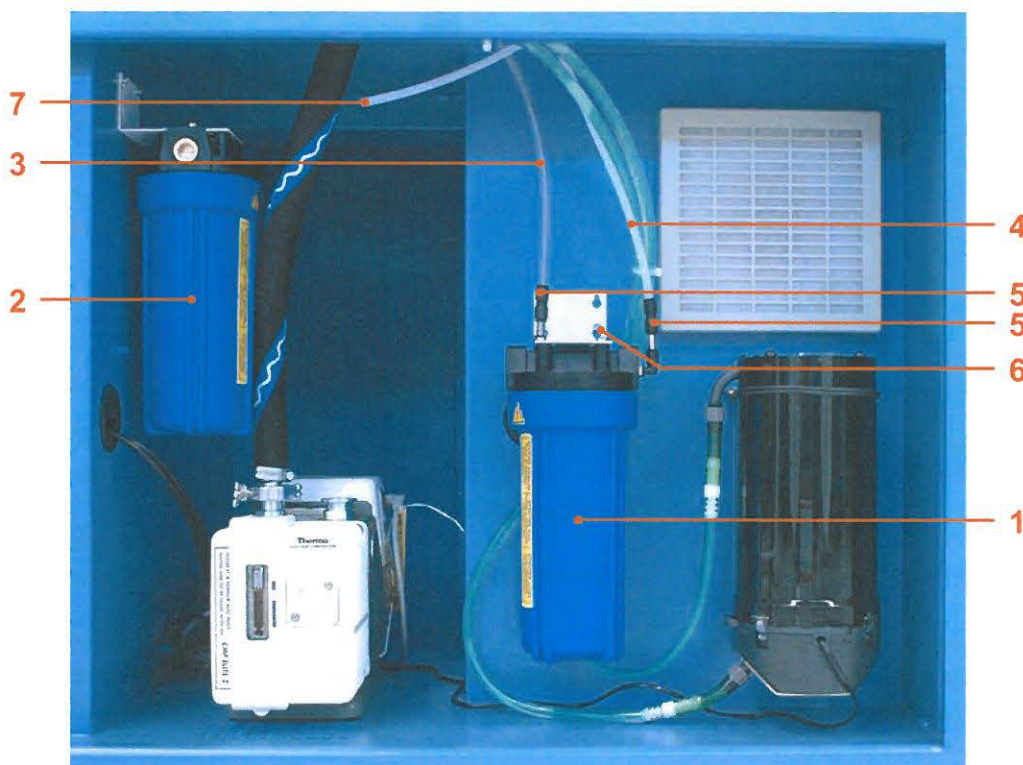

Figure 2.20
The argon inlet is under the stand and can be located on the figure 2.3 pos. 8. The figure 2.20 shows the standard version of the outlet argon circuit, after the stand.
Key to figure 2.20: